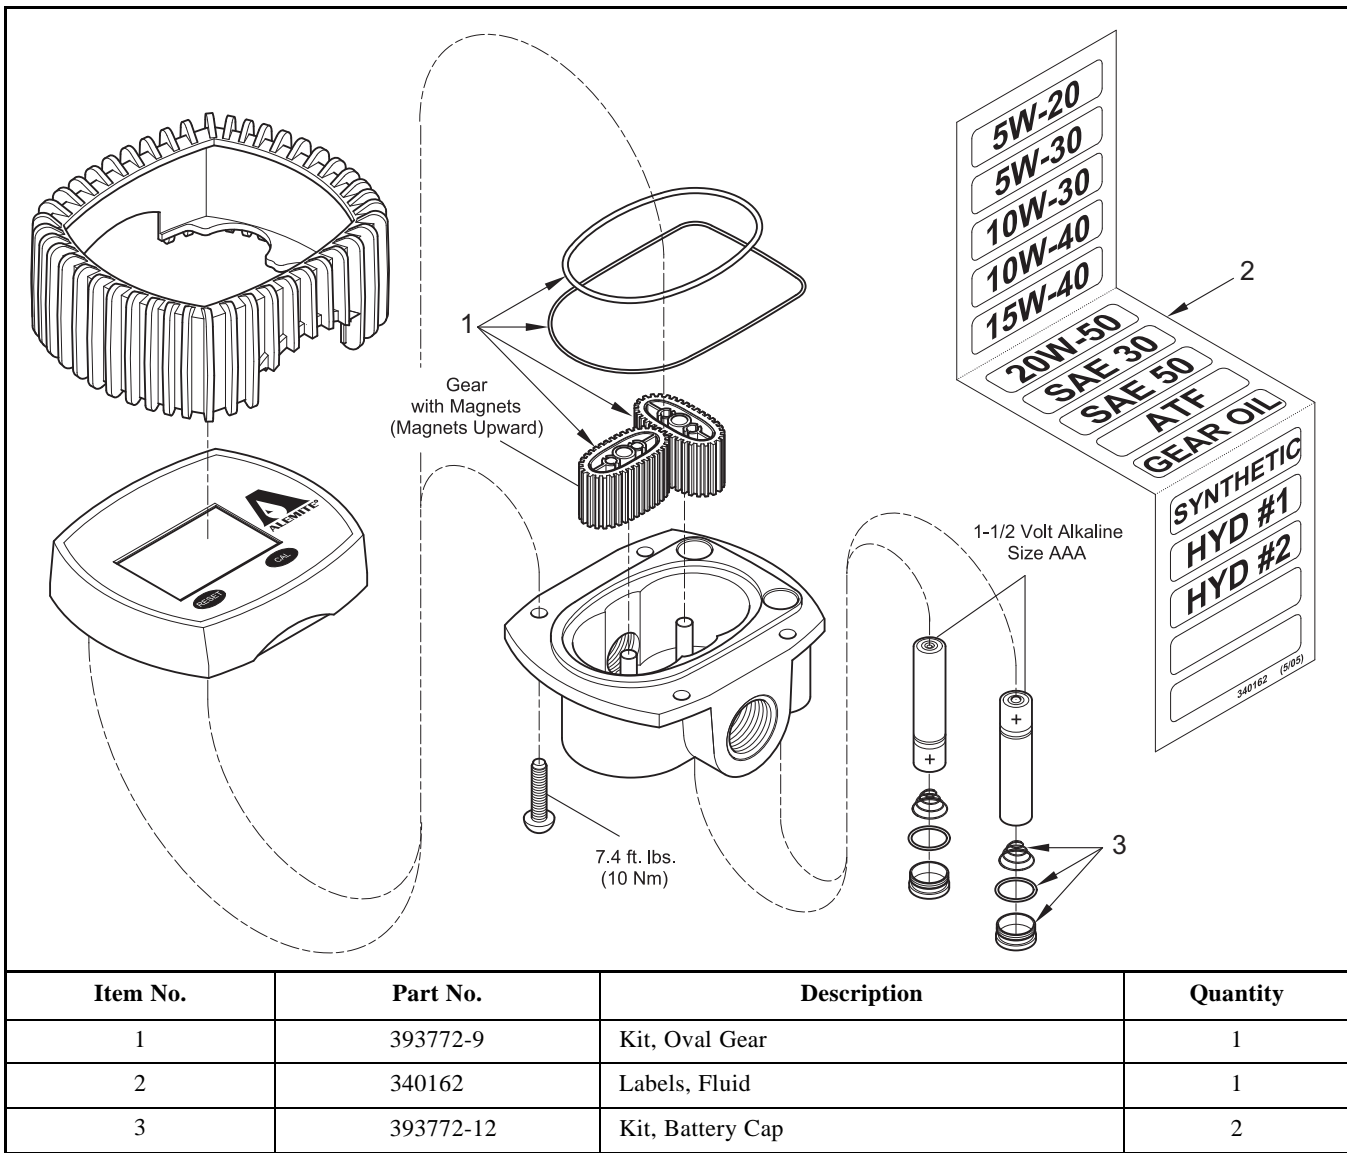

Figure 2 Electronic Meter Model 3679 - Exploded View
*IMPORTANT: Install the gear with the magnets (magnets upward) onto the left post of the body as shown on **Figure 2**.*